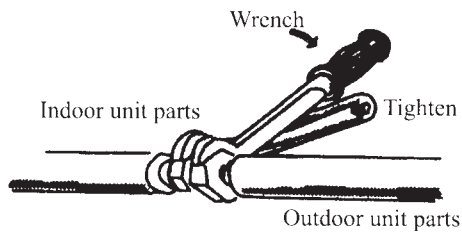

Fig 24
- (4) Tighten nuts with wrench (see Tab.36 for moment of force) until the wrench gives a crack (be careful don't make it too tight, or screw thread and nut of the joint may be damaged and cause leakage of refrigerant, see Fig. 24).